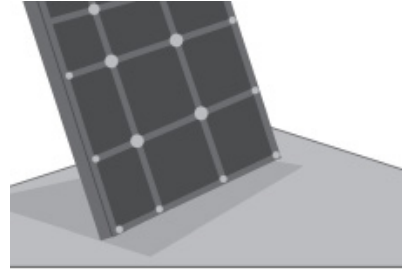

FIG.3
- Apply daubs of construction adhesive where each vertical and parallel support meet, making a grid formation (FIG 3).